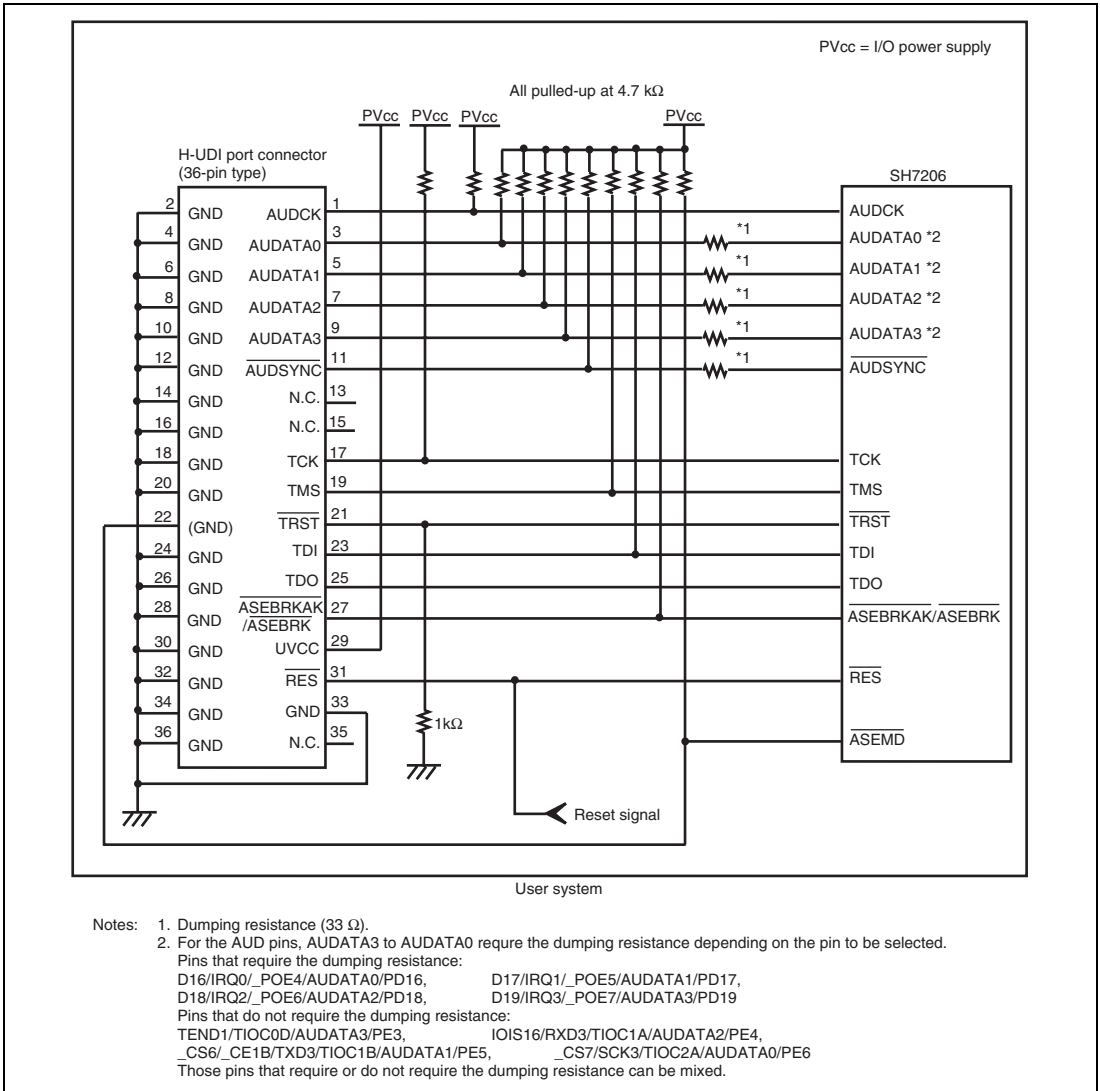

Figure 1.5 Recommended Circuit for Connection between the H-UDI Port Connector and MCU when the Emulator is in Use (36-Pin Type)
Figure 1.5 shows a recommended circuit for connection between the H-UDI and AUD port connectors (36 pins) and the MCU when the emulator is in use.
- (1) When the emulator is used: `_ASEMD = 0`
- (2) When the emulator is not used: `_ASEMD = 1`Figure 1.5 shows an example of circuits that allow the `_ASEMD` pin to be GND (0) whenever the emulator is connected by using the user system interface cable. When the `_ASEMD` pin is changed by switches, etc., ground pin 22. Do not connect this pin to the `_ASEMD` pin.
7. The resistance value shown in figure 1.5 is for reference.
When the circuit is connected as shown in figure 1.5, the switches of the emulator are set as SW2 = 1 and SW3 = 1. For details, refer to section 3.8, Setting the DIP Switches, in the SuperH™ Family E10A-USB Emulator User's Manual.